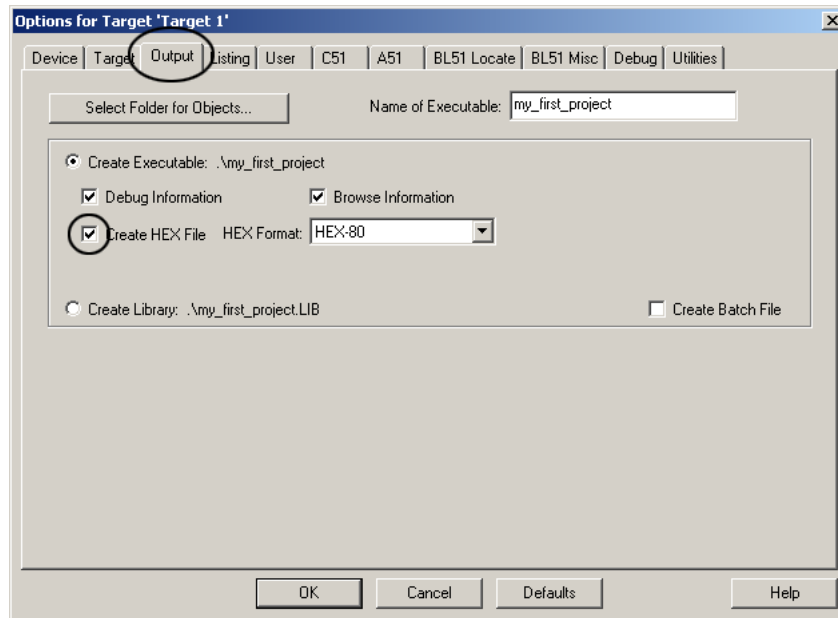

Figure 7. Check “Create HEX file”
9. Figure 7. shows a screenshot of the “Output” tab, where you set up Keil for your project.
10. Create a HEX file in the “Output” tab (see Figure 7.) to later program the nRF24LE1.